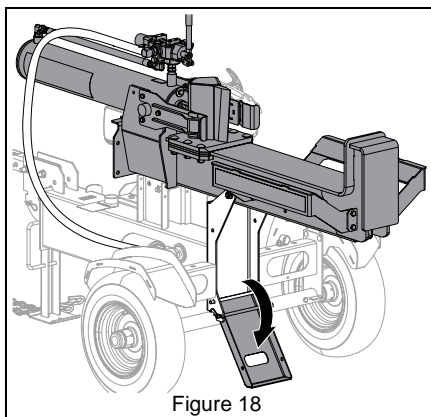

Figure 18
4. Rotate rear stabilizer to operating position. See Figure 18.